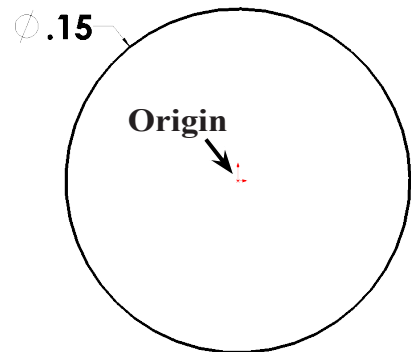

Fig. 2
Step 3. Click **Circle**  (S) on the Sketch toolbar.
Step 4. Sketch a circle starting at the Origin , **Fig. 2**.
Step 5. Click **Smart Dimension**  (S) on the Sketch toolbar.
Step 6. Dimension circle **diameter .15**, **Fig. 2**.